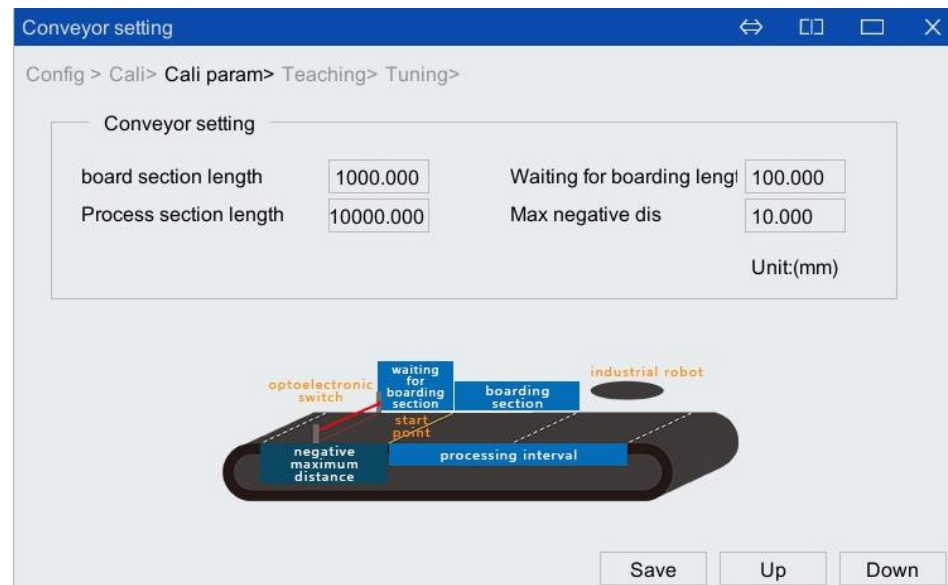

Figure 5-41 Conveyor belt calibration parameter interface
Step15. Click <Down> to enter the interface of [Cali param], where calibration parameters can be adjusted, as shown in Figure 5-41, and parameter description is shown in Table 5-8.